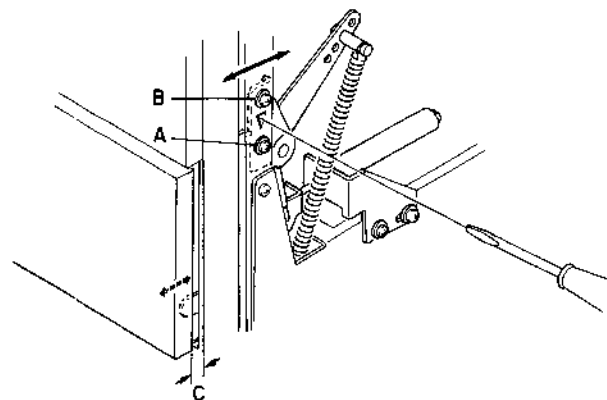

Fig. 4.31
- (1) Remove the Top Cover Ass'y, referring to item 2.1.
- (2) Loosen the screw (A), then slightly loosen the screw (B).
- (3) By turning a screwdriver as shown in Fig. 4.31, adjust the gap (C) at the lower part of the Adjustment Lid until it becomes equal to the gap at the upper part of the Adjustment Lid. Clockwise turning will result in decreasing the gap (C) and vice versa.
- (4) Tighten the 2 screws (A and B).